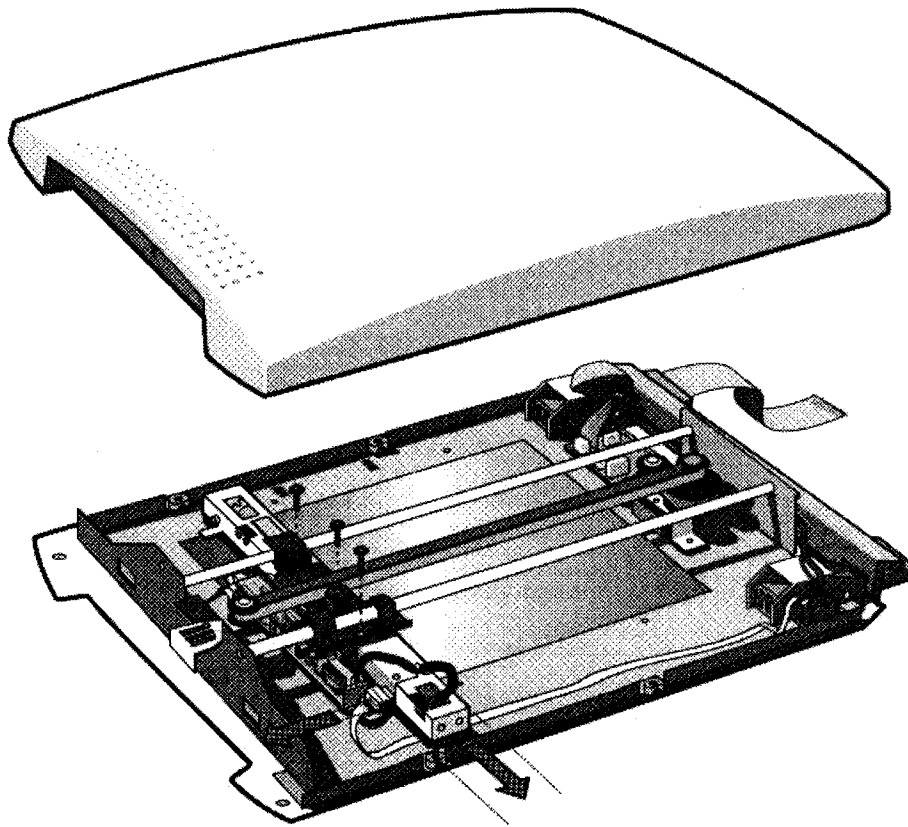

Fig. 5.5 Removing the housing of the transparency module.
7. Remove the housing of the transparency module (Figure 5.5).
9. Remove the top three screws on the lamp assembly (Figure 5.5).
10. Remove the flexible cable and connector (Figure 5.5).